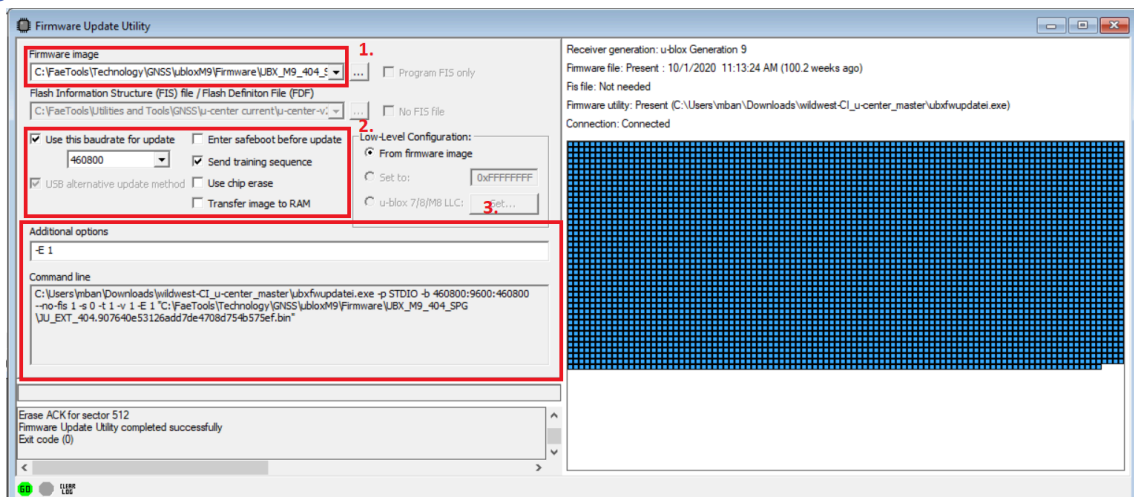

**Figure 7: Firmware update tool**
1. Select **Tools > Firmware Update....** The firmware update window will appear as shown in Figure 7.